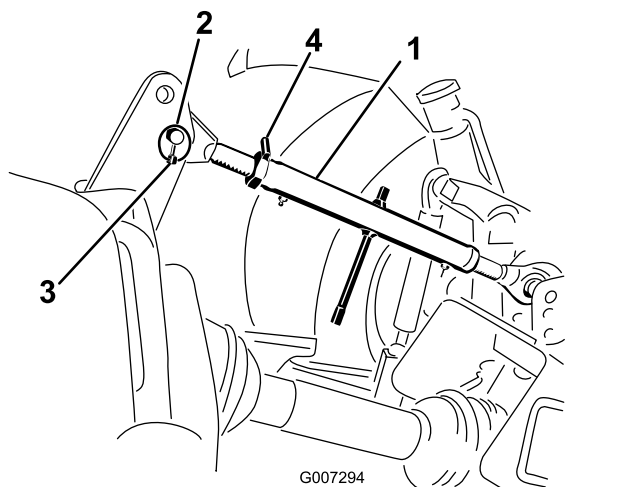

Figure 8
1. Connect the upper link to the lower hole in the bracket and secure it with the link pin and the lynch pin (Figure 8).
3. Rotate the upper link to tighten the link. Adjust it until the front of the aerator frame is 90 degrees from horizontal (Figure 8).